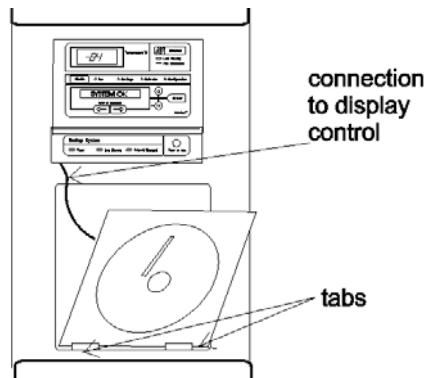

Figure 6
4. Place the recorder into the bottom tabs in the recorder location as shown in Figure 6.